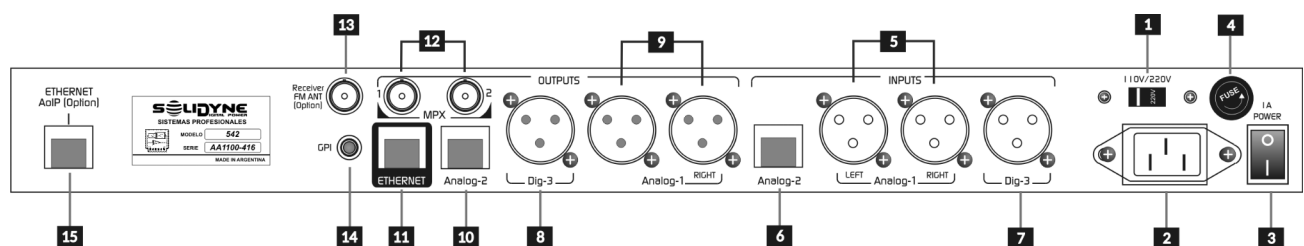

Figure 1- Rear Panel
1. The 542APC processor must be connected to the LAN using the port **Ethernet for remote control** (see ref.11 in Figure 1).